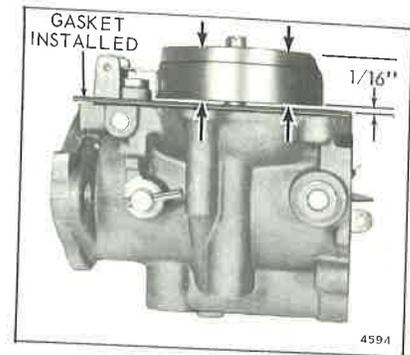

Figure 3-18. Float Level Adjustment
b. Check for correct float level. Top surface of float must be parallel to, and 1/16 above gasket surface when carburetor body assembly is held upside down. Measurement to be made at point furthest from hinge. See Figure 3-18.